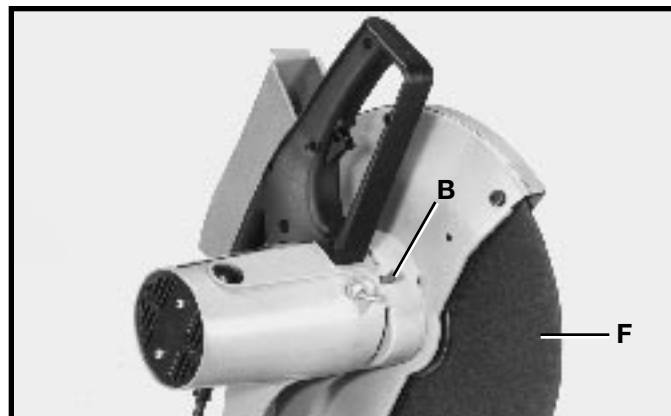

Fig. 24
3. Press in on arbor lock (B) Fig. 24, and at the same time rotate wheel (F) by hand until the arbor lock engages.